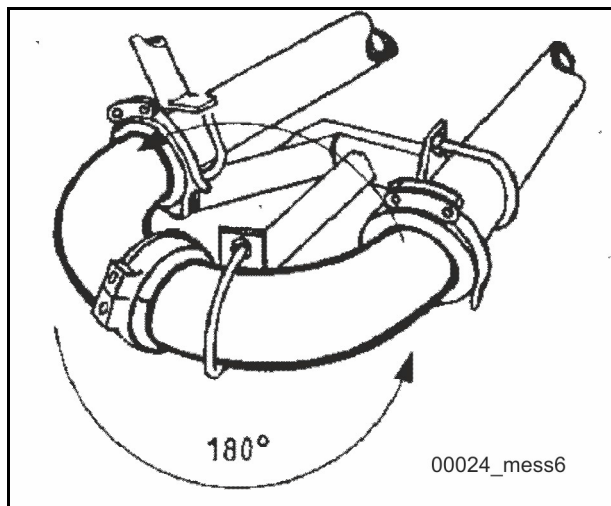

Fig. 212
- Turn pumping pipes and elbows 180° from the inlet side to the outlet side after 50 % of their expected service life (Fig. 212).